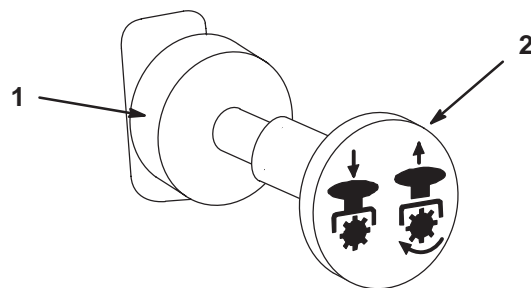

Figure 18
- Pull out on the power take off (PTO) switch to engage (Fig. 18).
- To disengage push the PTO switch to the off position (Fig. 18).